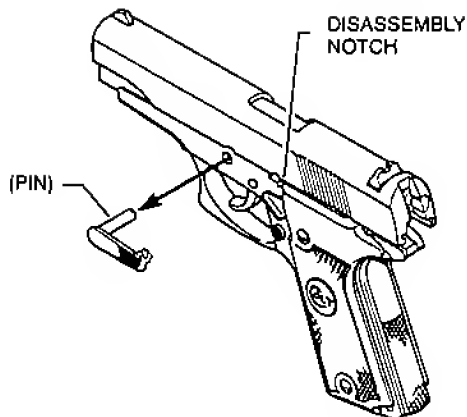

FIGURE 8—REMOVING SLIDE STOP
- (A & B)** Pull slide to rear until lug on slide stop is opposite disassembly notch (See Figure 8) and push rounded end of pin of slide stop (on right of receiver) inward and through receiver to disengage slide stop from slide.
6. **(A & B)** Lift out slide stop. (See Figure 8)